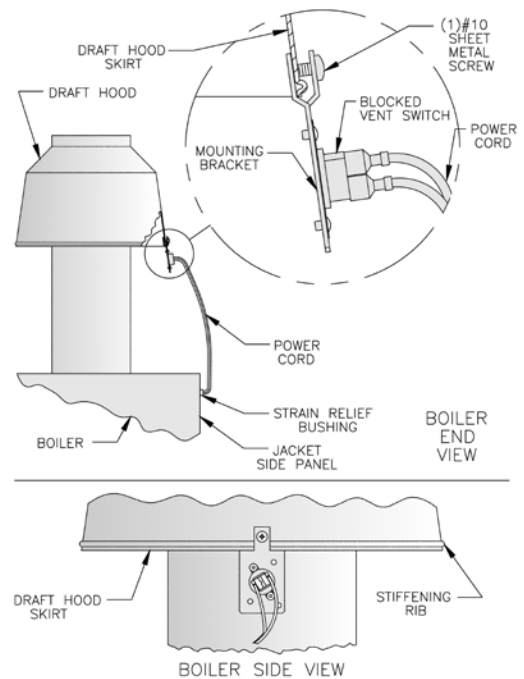

Figure 8: Blocked Vent Switch Installation
3. Position mounting bracket onto lower edge of Draft Hood skirt. Locate center tooth (with #10 sheet metal screw) on outside and other two teeth inside Draft Hood skirt. See Figure 8.
8. Verify power cord, mounting bracket and Blocked Vent Switch are secure and located as shown in Figure 8.